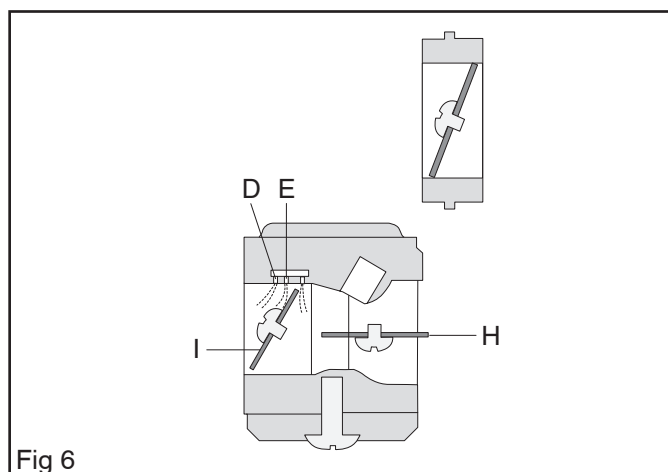

Fig 6
In the part throttle mode (see Figure 6) the throttle valve (I) is partially open and the choke valve (H) is open. Fuel is supplied through the diffuser jets (D and E). The throttle valve (J) starts to open. See Figure 6.